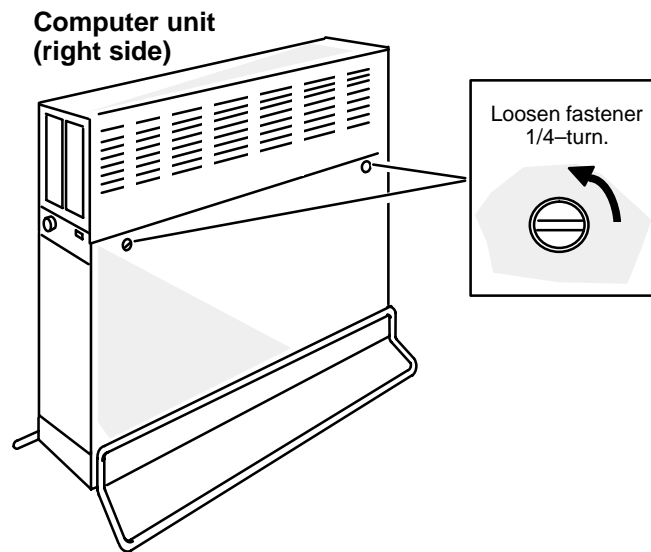

Figure 6-5 Loosening the Side Cover Fasteners
3. Using a coin or screwdriver, loosen each fastener by turning it one-quarter turn counterclockwise as shown in Figure 6-5.